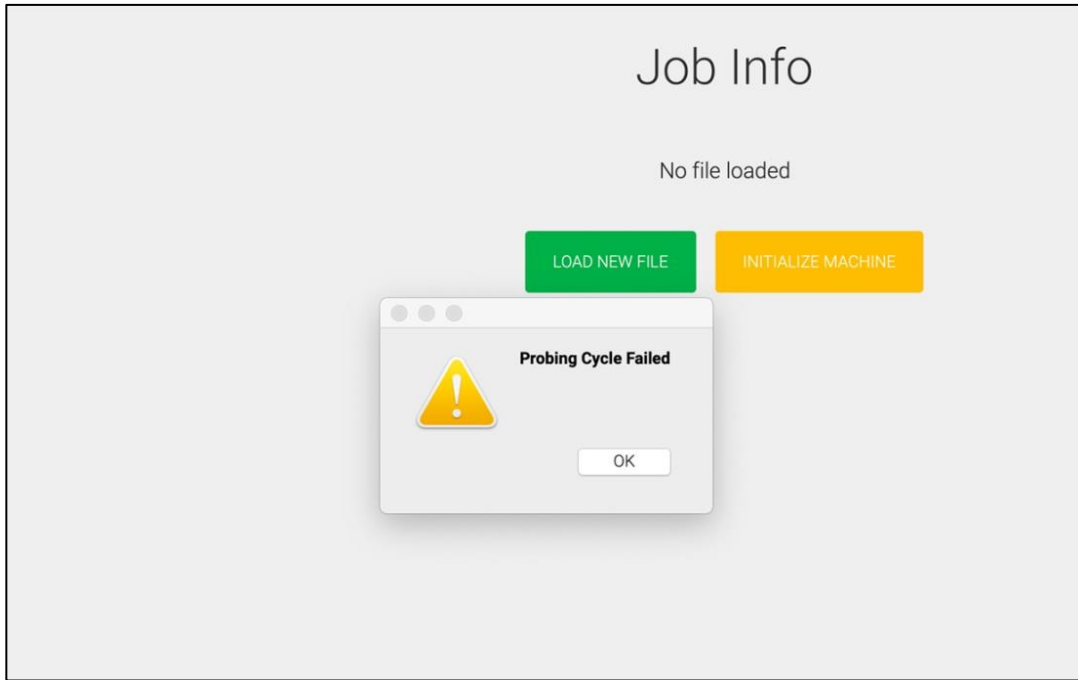

Figure 22
11. If you receive an error message, see **Fig. 22**, repeat steps 1–10 to run a new probing sequence.